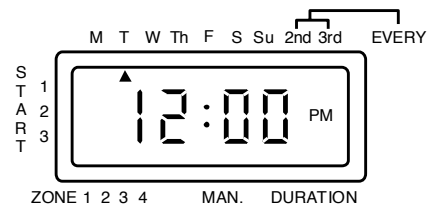

Figure 7
4. Press **ENTER** to record current day of week. Indicator stops blinking and time begins blinking. (See Figure 7.)